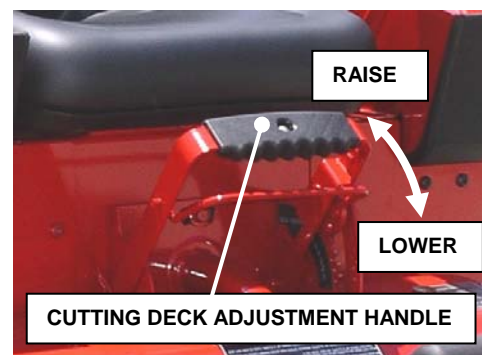

FIGURE 1.6
- 3. Make sure parking brake is engaged. See Figure 1.6.
4. Disengage parking brake. See Figure 1.6.